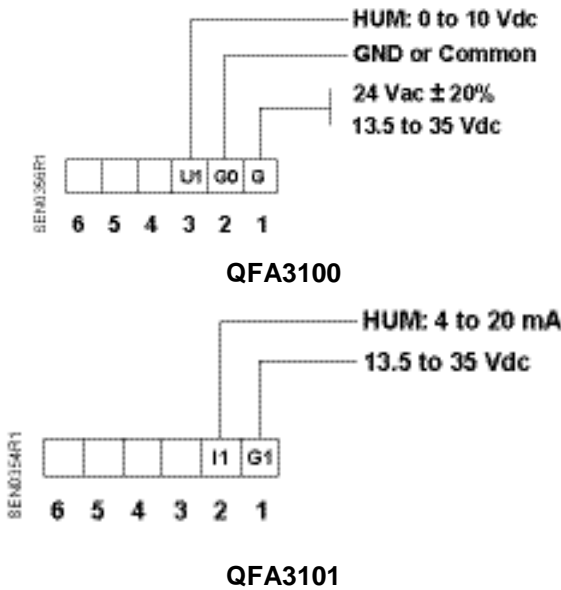

Figure 3. Wiring Diagrams for RH Sensors.
4. Connect the field wiring to the sensor terminal block on the base. See Figures 3 and 4 for wiring diagrams.